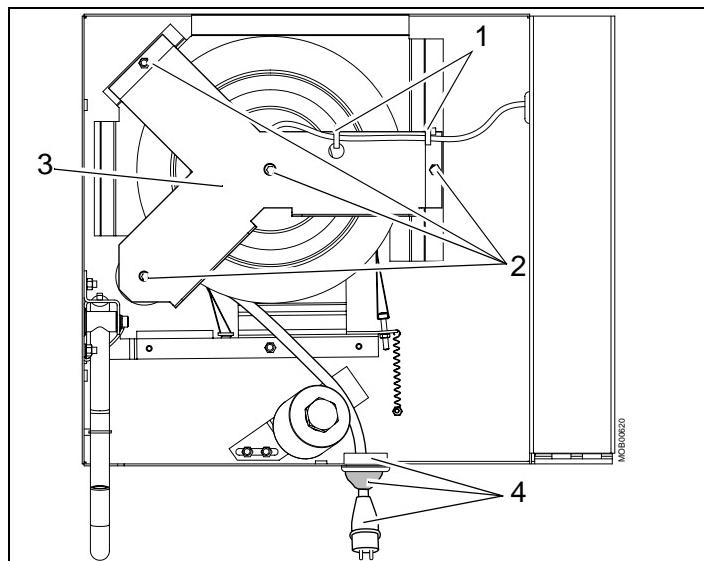

Fig. 5
- Remove the two cable ties (pos. 1 / Fig. 5).
- Remove four screws and four nuts (pos. 2 / Fig. 5) and Y-plate (pos. 3 / Fig. 5).
- Remove plug, cable stop and ring (pos. 4 / Fig. 5).